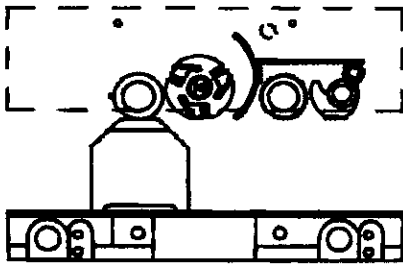

Figure 15 – Outfeed Roller with Block Adjustment
- Remove feeler gauge and slide adjustment block under outfeed roller (See Figure 15). Outfeed roller should just contact adjustment block. If outfeed roller is too high or low loosen hex nut on set screw (Figure 19, Key Nos. 3 and 29) under outfeed roller. Rotate set screw to position outfeed roller properly. Secure position by tightening hex nut on set screw.